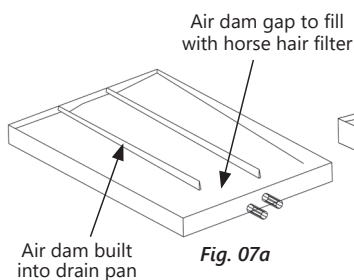

Fig. 07a
- 4) Position the blue horse hair filter in front of the drain line inlets, to filter condensate and prevent any air from bypassing under the coil through the gap in the drain pan's air dam. (Figs. 07a, 07b)